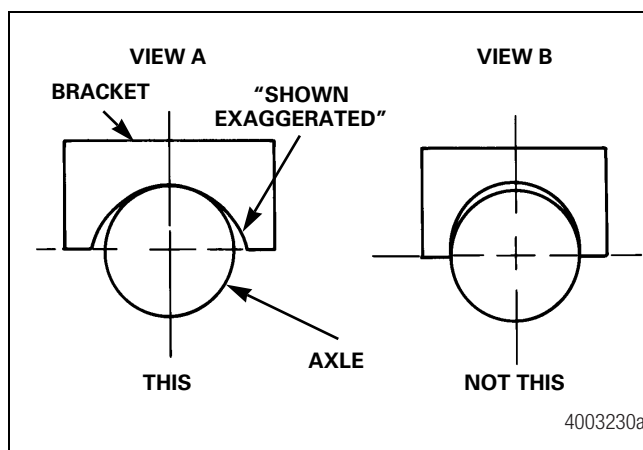

Figure 7.2
- Brackets that wrap around the axle should fit the axle so that the point of contact is at the base of the bracket as shown in View A. Here the fit is such that loads imposed on the bracket are transferred directly to the axle. A fit as shown in View B is such that both vehicle loads or loads imposed by tightening U-bolts are transferred through the weld. This may cause the weld to crack. Figure 7.2.